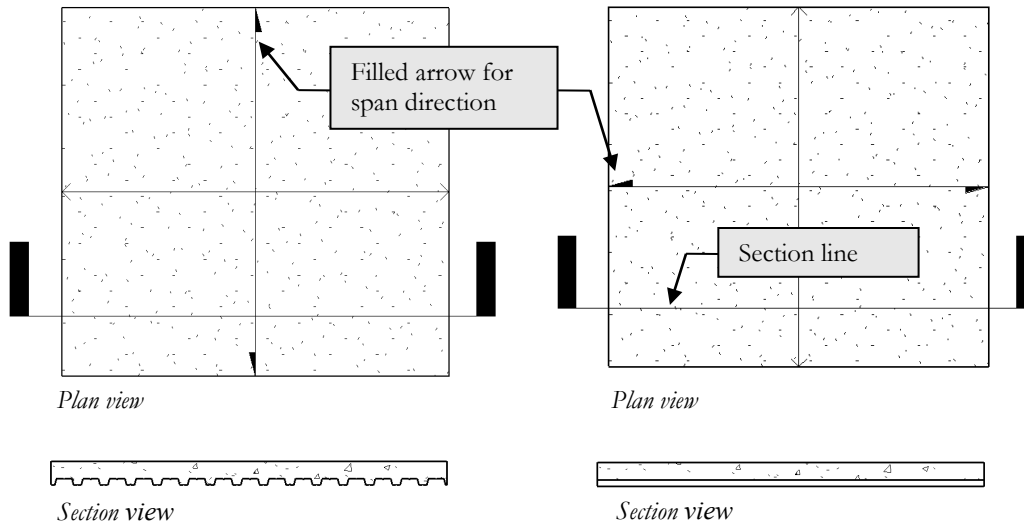

FIGURE 7-4.4 Span direction results
18. Ensure that the filled arrows are on the left and right, as in the example on the right in Figure 7-4.4. If not, select the symbol and use the *Rotate* tool to rotate it 90 degrees.